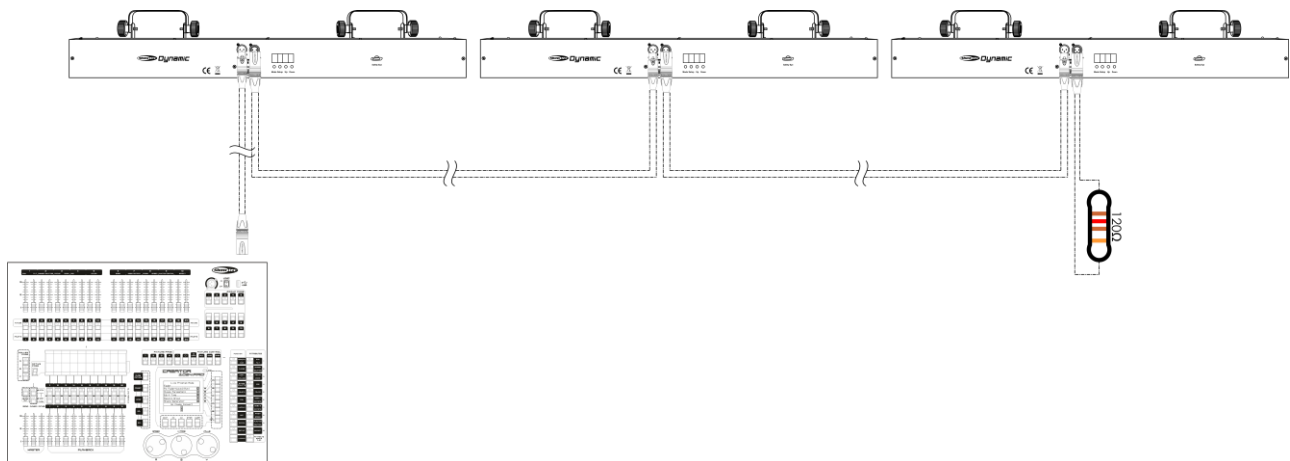

Fig. 04
- 04) Link the units as shown in Fig. 04. Connect the first unit's DMX "out" socket with the second unit's "in" socket, using a DMX-signal cable. Repeat this process to link the second and third units.